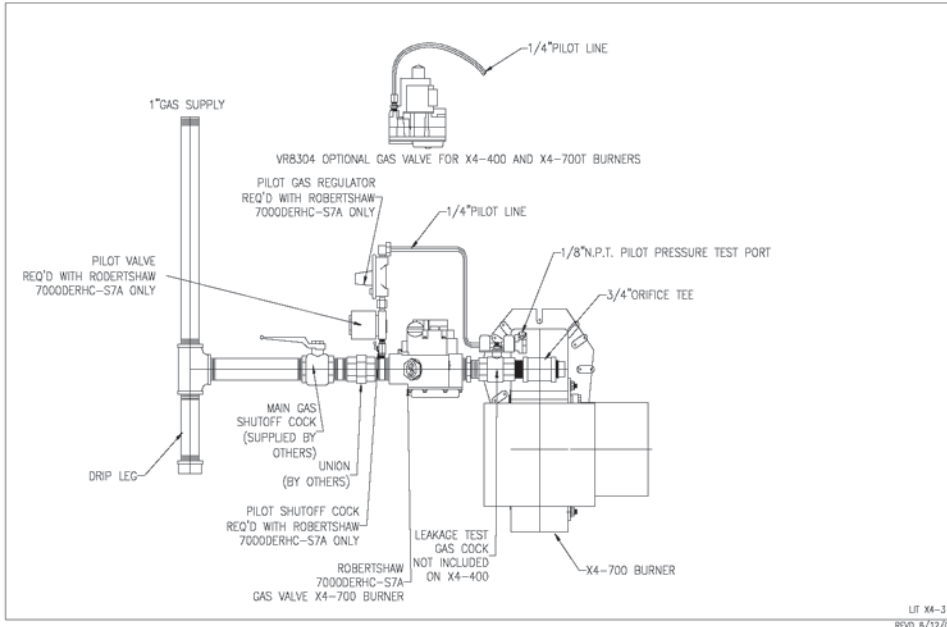

Figure 3: UL Gas Piping Train (X4)
- 5.3 **Refer to Figure 3** for details of gas piping. (Also refer to any additional piping diagrams supplied for this specific unit.)
- 5.4 Mount leakage test and main gas cocks, main automatic gas valve or combination gas valve/pressure regulator, and auxiliary valves (if required and not factory mounted) per piping diagram or **Figure 3**.
- 5.6 The pilot line should be piped into the upstream tapped nipple to minimize pilot line piping length. An optional location is in a tapping located on the main shut-off cock. **Refer to Figure 3**. For ease of servicing, we recommend the use of a union immediately upstream of the main gas pressure regulator or combination gas valve/pressure regulator.